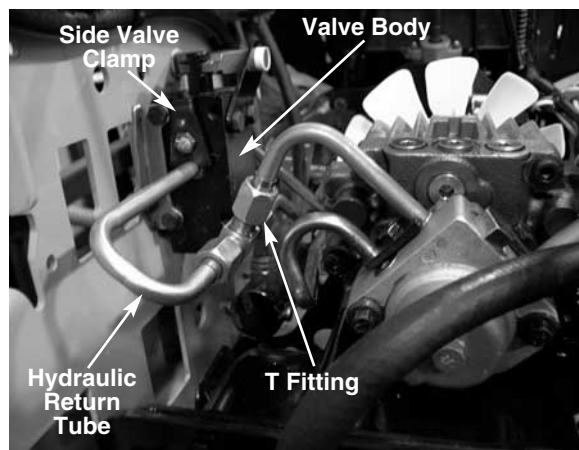

FIGURE 2.
4. Remove the side valve clamp that holds the return tube to the valve body. See figure 2.
5. Remove the hydraulic return tube from the "T" fitting with an 18mm wrench. See figure 2.
6. Remove the hydraulic return tube from the hydraulic valve body. See figure 2.